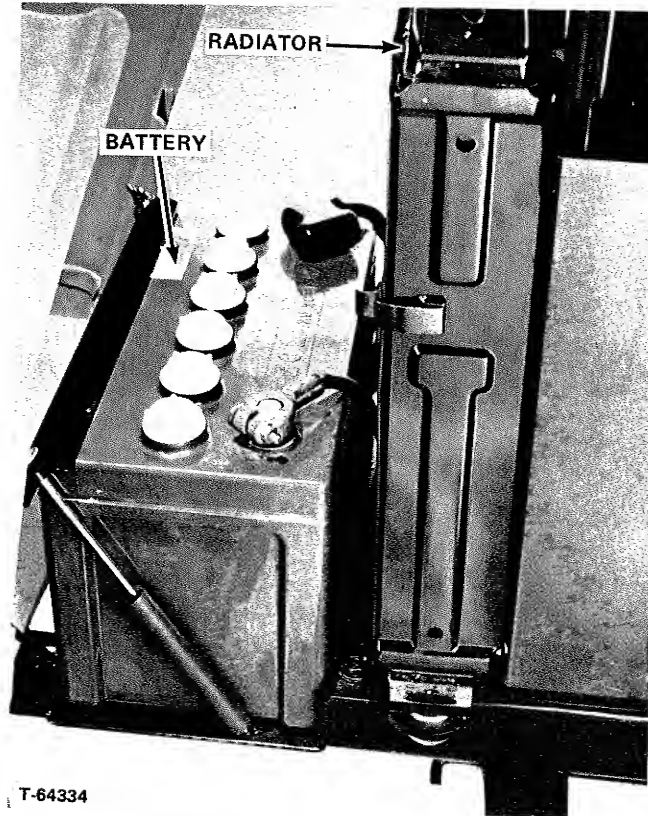

FIGURE 13 - Hood Open for Clarity
BATTERY (Figure 13)
2. When connecting a booster battery or auxiliary starting power as a starting aid, make certain to follow the same connection procedures as outlined in the CAUTION steps 1 thru 4 under BATTERY, Figure 13. Failure to observe this precaution will result in burned out diodes and wiring harness.